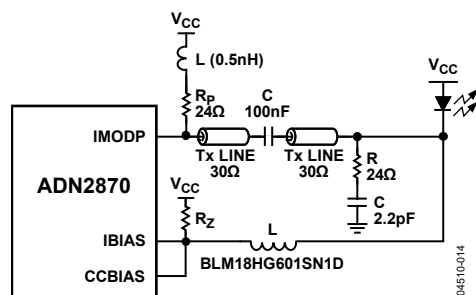
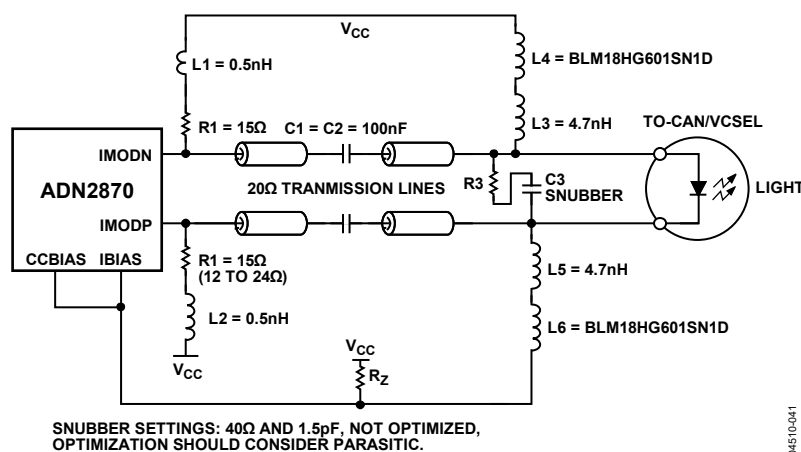

Figure 32. Recommended Interface for ADN2870 AC Coupling
Figure 33. Recommended Differential Drive Circuit
The schematic in Figure 32 describes the recommended circuit for interfacing the ADN2870 to most TO-Can or coax lasers.
Coax lasers have special characteristics that make them difficult to interface to. They tend to have higher inductance, and their impedance is not well controlled. The circuit in Figure 32 operates by deliberately mismating the transmission line on the laser side, while providing a very high quality matching network on the driver side. The impedance of the driver side matching network is very flat vs. frequency and enables multi-rate operation. A series damping resistor should not be used.
The 30  $\Omega$  transmission line used is a compromise between drive current required and total power consumed. Other transmission line values can be used, with some modification of the component values. The R and C snubber values in Figure 32, 24  $\Omega$  and 2.2 pF, respectively, represent a starting point and must be tuned for the particular model of laser being used. Rb, the pull-up resistor, is in series with a very small (0.5 nH) inductor. In some cases, an inductor is not required or can be accommodated with deliberate parasitic inductance, such as a thin trace or a via placed on the PC board.
Recommended component layouts and gerber files are available by contacting sales at Analog Devices. Note that the circuit in Figure 32 can supply up to 56 mA of modulation current to the laser, sufficient for most lasers available today. Higher currents can be accommodated by changing transmission lines and backmatch values; contact sales at Analog Devices for recommendations. This interface circuit is not recommended for butterfly-style lasers or other lasers with  $25\ \Omega$  characteristic impedance. Instead, a  $25\ \Omega$  transmission line and inductive (instead of resistive) pull-up is recommended; contact sales for recommendations.
The ADN2870 also supports differential drive schemes. These can be particularly useful when driving VCSELs or other lasers with slow fall times. Differential drive can be implemented by adding a few extra components. A possible implementation is shown in Figure 33.
In the circuits shown in Figure 32 and Figure 33, Resistor  $R_z$  is required to achieve optimum eye quality. The recommended value is approximately  $200\ \Omega \sim 500\ \Omega$ .
**Table 6. ADN2870 Response to Various Single-Point Faults in AC-Coupled Configuration, as Shown in Figure 32**